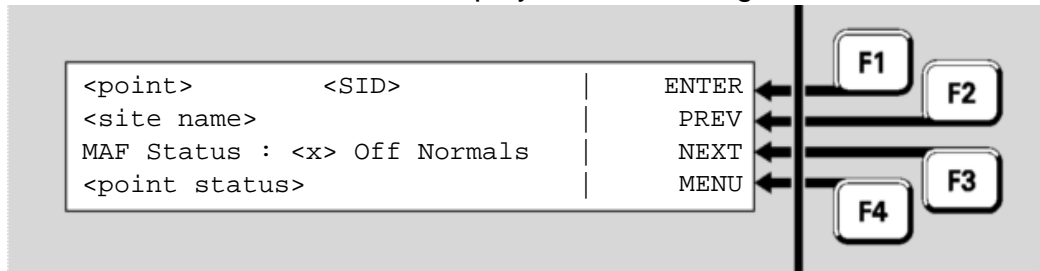

Fig 9-7 – MAF Status Display
247.SID.1 to display the MAF Status – See Fig 9-7
The format of the MAF Status display is shown in Figure 9-7.
- **MENU** ← **F4** to display the default menu (as per Figure 9.7).